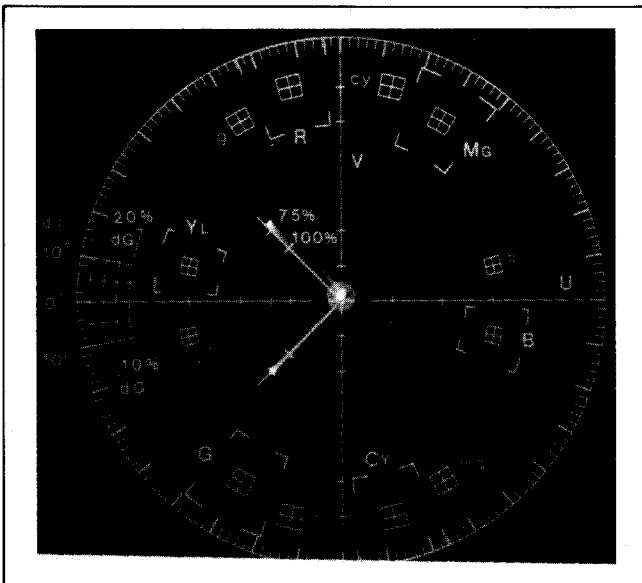

Fig. C10
6. Push [INC] or [DEC] keys until the vectors are in or close as possible to the centre, See Fig.C10.
9. * Push [INC] or [DEC] keys until the vectors are in or as close as possible to the centre, See Fig.C10.